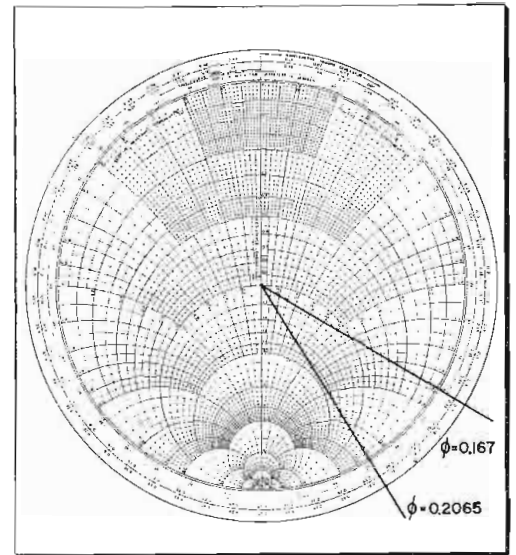

Fig. 4: Finding  $Z_s$  for open or shorted line
**EXAMPLE 4:** (See Fig. 4.) A 50 ohm line  $24^\circ$  long is open circuited. Find the input impedance.
**EXAMPLE 5:** (See Fig. 4.) A 300 ohm shorted line is to have an input susceptance of  $+j0.12$  mhos. How long should the line be?